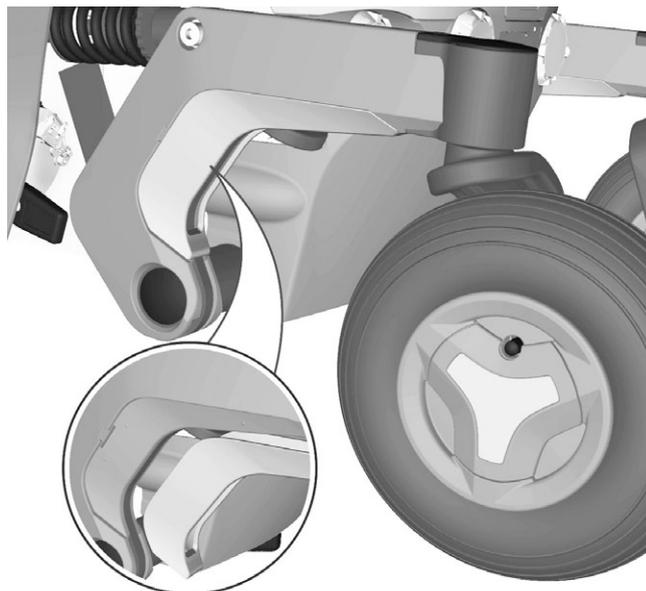

Figure 13. Link arm accent colour cover.
2. Remove the accent colour cover by carefully bending it loose from underneath of the link arm by using a screwdriver. See fig. 13.
2. Fit the link arm accent colour cover by carefully pushing it in to position until you hear a “click”. See fig. 13.